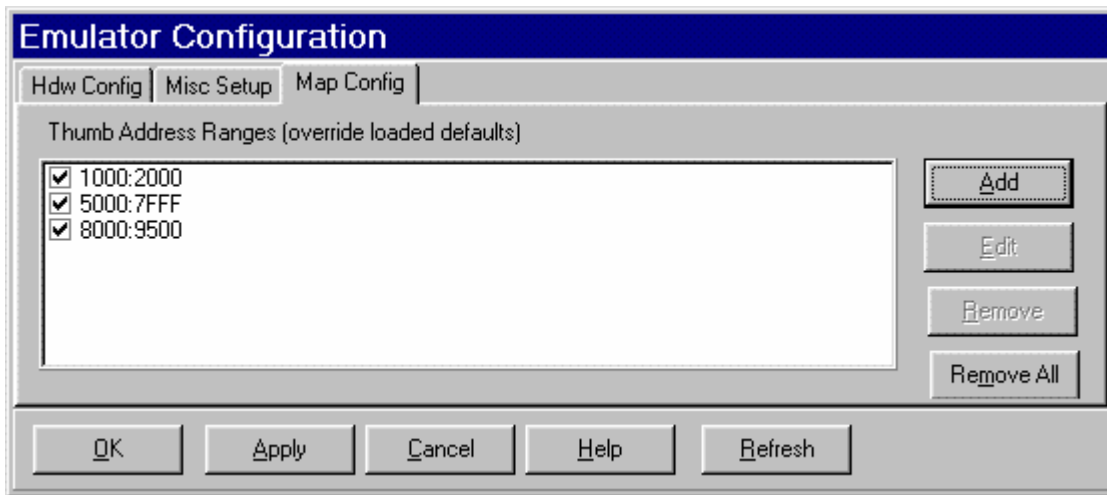

Figure 2-20: Emulator Configuration Window Displaying the Map Config Tab
• Figure 2-20 is accessible only after the initial software configuration. The file loader will automatically map THUMB regions defined in the output file. This mapping window provides a manual override for THUMB regions. The large open area displays the address ranges that contain THUMB code.